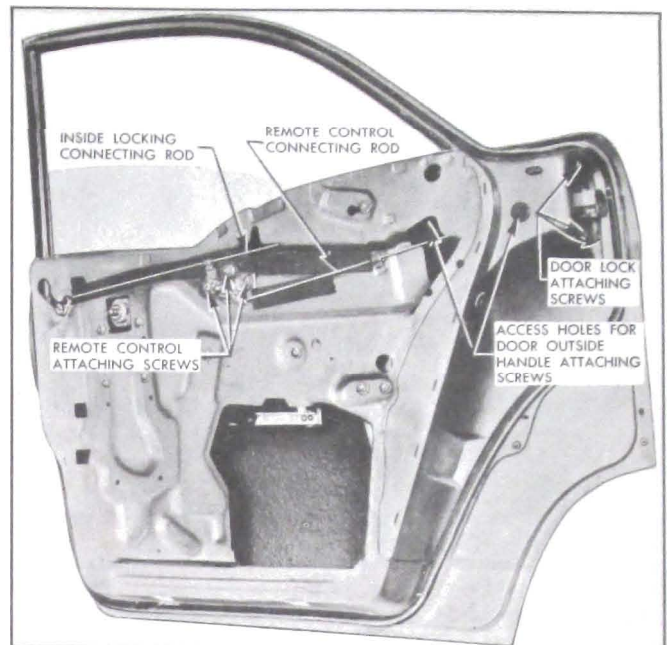

Figure 13-57—Rear Door Window—Model 41
2. Remove window rear guide upper and lower attaching studs and nuts, Figure 13-57, then disengage guide from shoes on window lower sash channel and remove from door by pulling guide upward through cut-out in top of door inner panel.
3. Remove window lower sash channel cam attaching screws, Figure 13-57, then lift window assembly and prop in up position.
2. Detach door weatherstrip from window frame. Remove door window frame front and rear attaching screws, Figure 13-57.
1. Remove door belt finishing molding. Loosen window frame front and rear attaching screws, Figure 13-57.